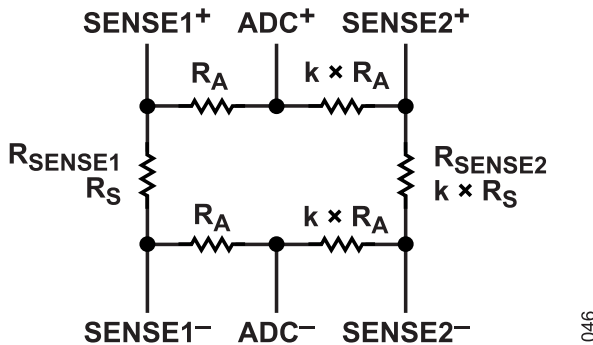

Figure 48. Weighted Averaging Current Sense Voltages
dividers. Some applications can use parallel sense resistors to achieve a specific resistance, in which case, the averaging resistors can be selected with the same ratio as the sense resistors they connect to, which allows the ADC to still measure current accurately (see Figure 48). In this case, the effective ADC sense resistor is  $R_S$  in parallel with  $k \times R_S$  for the current limit. Scaling the averaging resistors,  $R_A$ , by the same scaling factor,  $k$ , allows the ADC to measure the correct sense voltage for this effective sense resistor. The smallest averaging resistor on the ADC+ or SENSE+ side must not exceed 1  $\Omega$ .
1. Configure current limit and select current-sense resistors. A 18 mV sense voltage with a 0.5 mΩ sense resistance is picked to provide 36 A for each channel. When a specific design is actually built, there can be small inaccuracies in the current sensing owing to contact and copper trace resistances. An immediate remedy without changing sense resistors is to readjust the sense voltage in 2 mV steps. For instance, moving sense voltage from 18 mV to 20 mV gives a 11% increase in current. Some designers can use parallel-sense resistors to achieve a specific resistance. In which case, the averaging resistors,  $R_A$ , must be selected with the same ratio,  $k$ , as the sense resistors they connect to (see Figure 48), which allows the current-limit circuit to measure the correct sense voltage for this effective sense resistor. The smallest averaging resistor must not exceed 1 Ω.